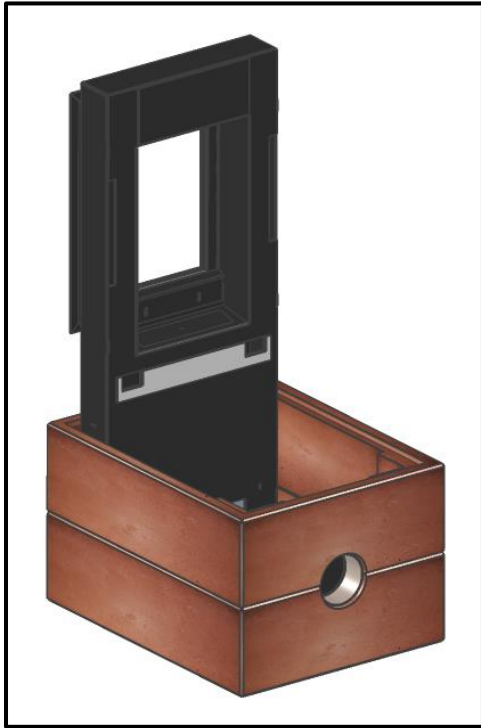
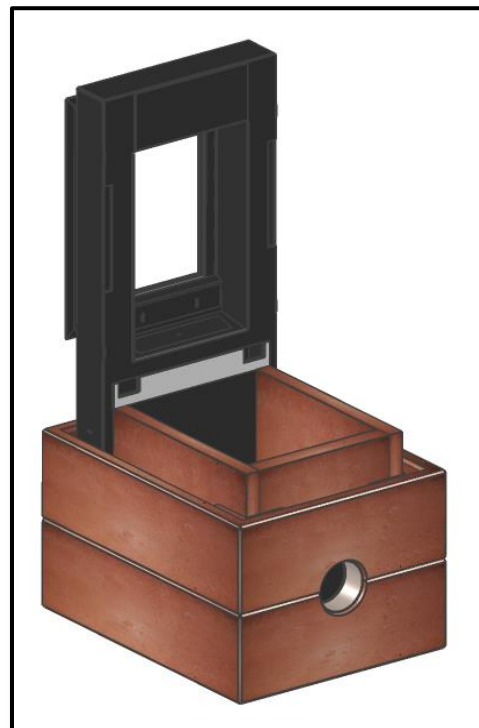

Fig.10
Fig.11
4. After properly connecting the front, install another external element (see Fig. 10). Each element should be glued with another with glue. After gluing element 1 to element 2, insert the gas generator chamber plates inside (see Fig. 11), also gluing them to each other with stove-fitters glue and surfaces in contact with the metal front with high-temperature silicone (300-350 °C, tightly - along the entire length, not just at points).